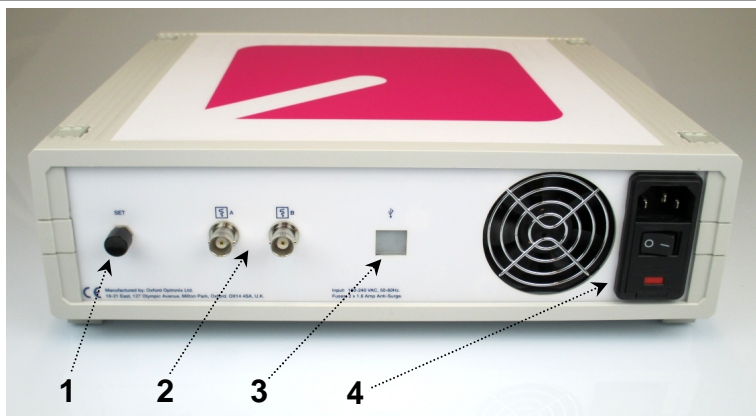

Figure 2: Rear view of the OxyFlo
5. Locate the 'SET' button at the rear of the monitor (see figure 2) and press it once to initiate the calibration routine. The display will show 'Calibration - Dip Probe' accompanied by an audible 'beep' every 2 seconds.